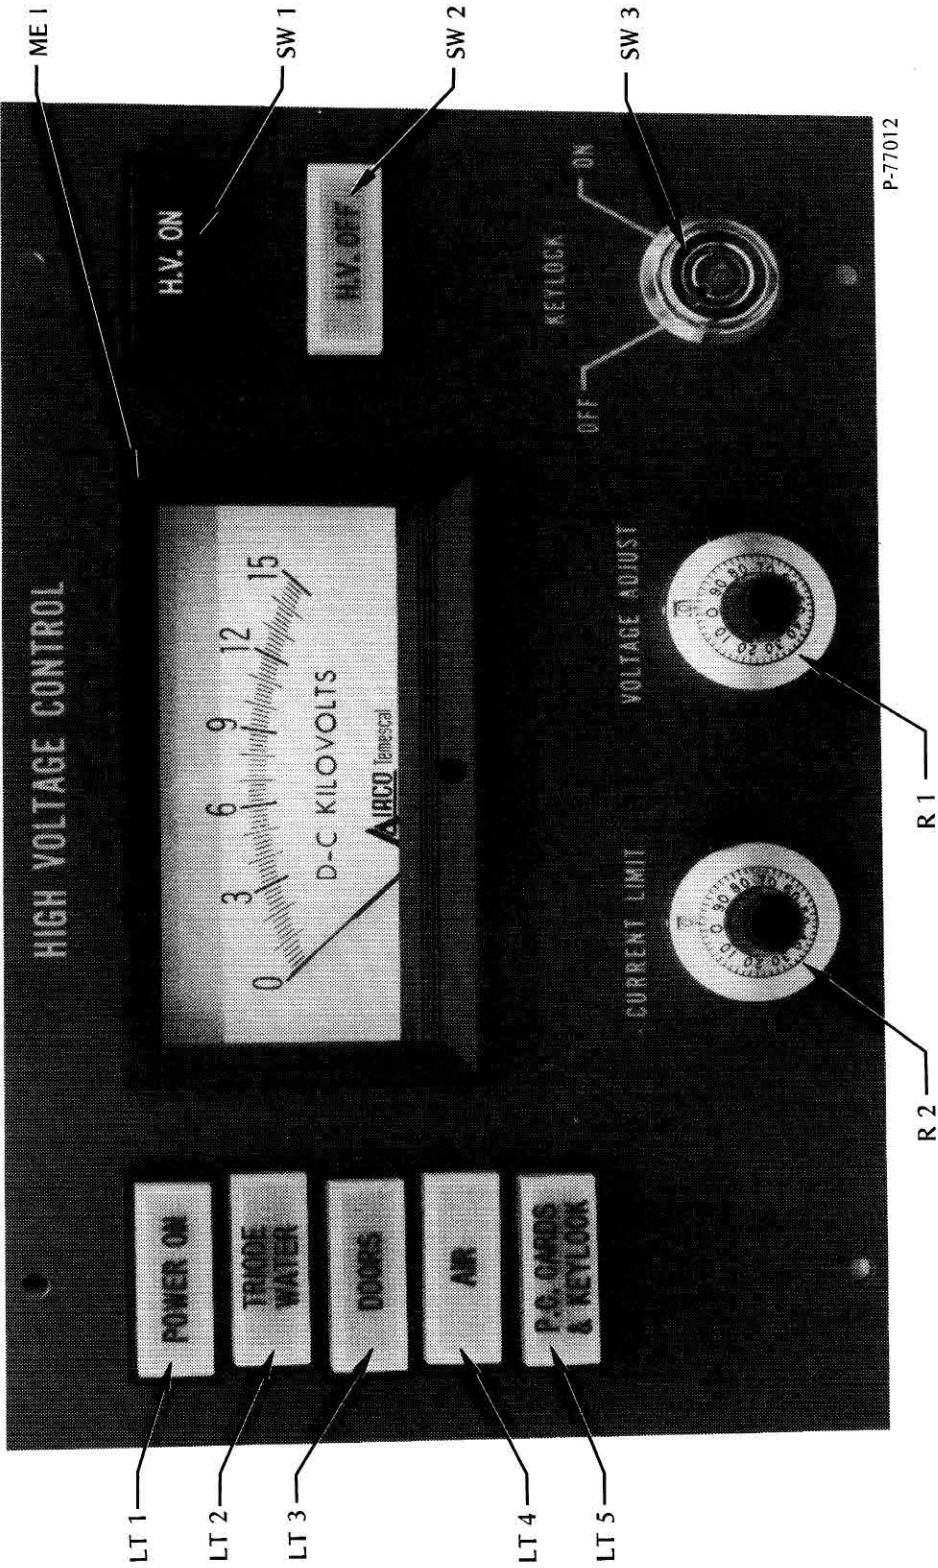

Figure 3-2. CV-14 A and B high voltage control panel
a) High Voltage Control Panel: (Figure 3-2)